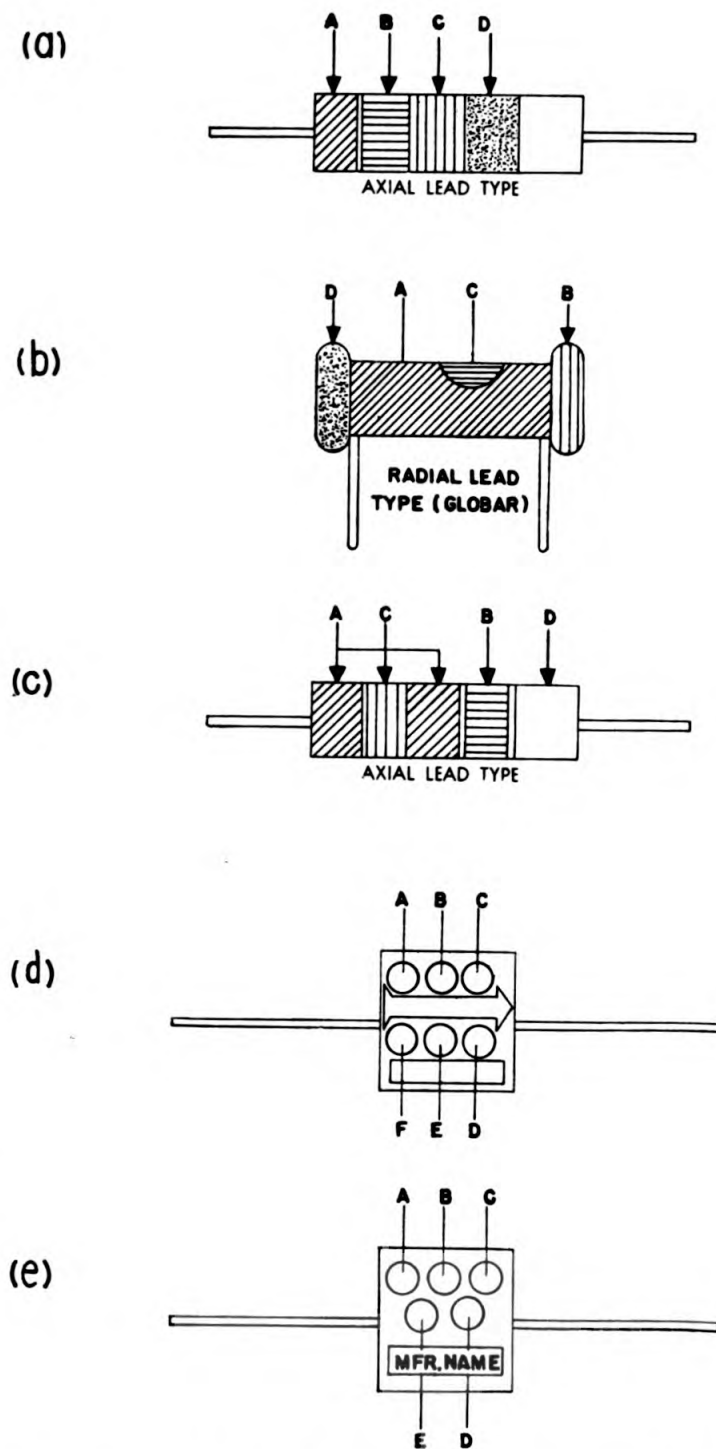

Figure 35. Diagram of RMA Color Code for Resistors and Capacitors
*a. Resistors.*—The nominal resistance value of fixed carbon resistors is indicated in three manners. The colors used to represent the resistance values in ohms are given in the above table. The system in most common use for axial lead resistors indicates the value with colored bands as in figure 35(a), in which:
(1) Band A indicates the first significant figure of the resistance value.
(2) Band B indicates the second significant figure.
(3) Band C indicates the multiplier.
(4) Band D, if any, indicates the tolerance limits about the nominal resistance value. No tolerance color indicates 20 percent.
For radial lead resistors (such as Globar) the system shown in figure 35 (b) is used, in which the colors of—
A system, not too commonly used at present, for indicating nominal resistance value of axial lead resistors is shown in figure 35 (c) in which the colors of:
A system now in common use involves six dots of color as in figure 35 (d) in which the color of:
Another commonly used system involves the use of three dots of color which is interpreted in the same manner as the first part of the five-dot system shown in figure 35 (e). The latter is described because a number of mica capacitors used in Radio Receiver BC-792-A are thus coded. In figure 35 (e) the color of: